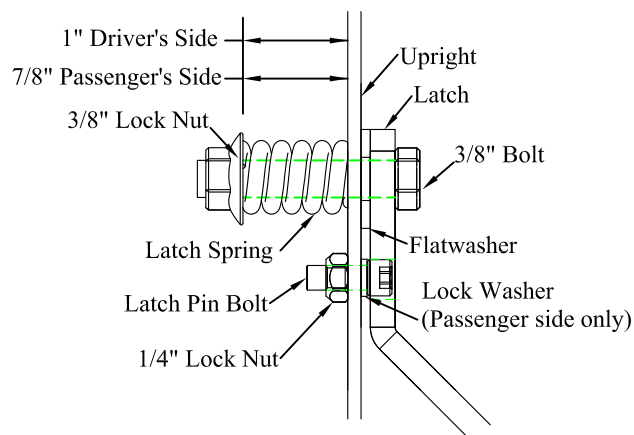

Figure 2: Platform latch assembly.
1. **Install** the latch pin bolts and lock nuts (Figure 2).
2. **Install** the latches with hardware as shown (Figure 2).
1. **Adjust** the spring height. Driver side should measure 1" and passenger side should measure 7/8" (Figure 2).